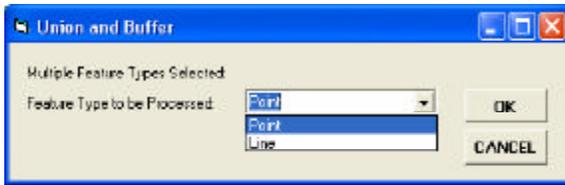

Figure 2
- b. *If features of different type have been selected* - The choice list dialog box of Figure 2 is displayed prompting the user to select which one of the selected feature types is to be processed. In this case, the user should scroll down in the *Feature Type to be Processed*: data field: (a) select the one single feature type to be processed, and then (b) click at the **Cancel** button to abort the command, or click at the **OK** button to confirm the feature type selection.